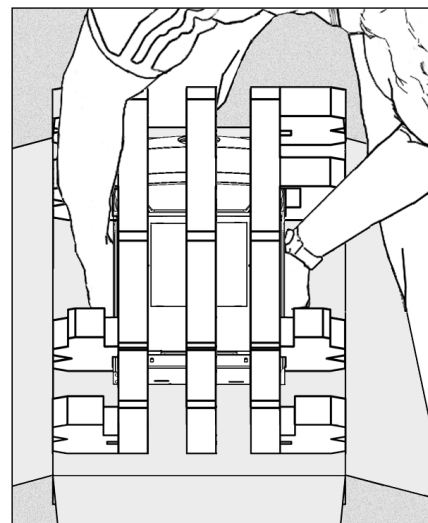

Figure 12
4. Lift the MS2420/MS2430 scanner out of the box by carefully grasping both sides near the center of the unit and lifting directly up. Refer to Figure 12 for hand placement.